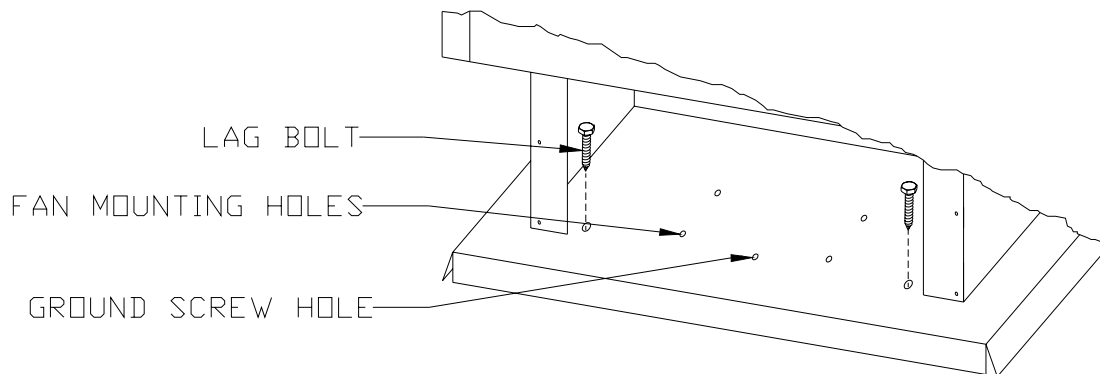

Figure 16
6. The appliance must be grounded to the steel chassis of the home with 8 ga. copper wire using a serrated or star washer to penetrate paint or protective coating and ensure grounding. Secure the wire to the .182" dia. hole in the center rear of the pedestal base, see Figure 16.
7. Secure the heater to the floor with the use of two carriage bolts. Locate the heater in the desired position and turn the carriage bolts through the two 3/8" holes in the rear of the pedestal base as shown in Figure 16.